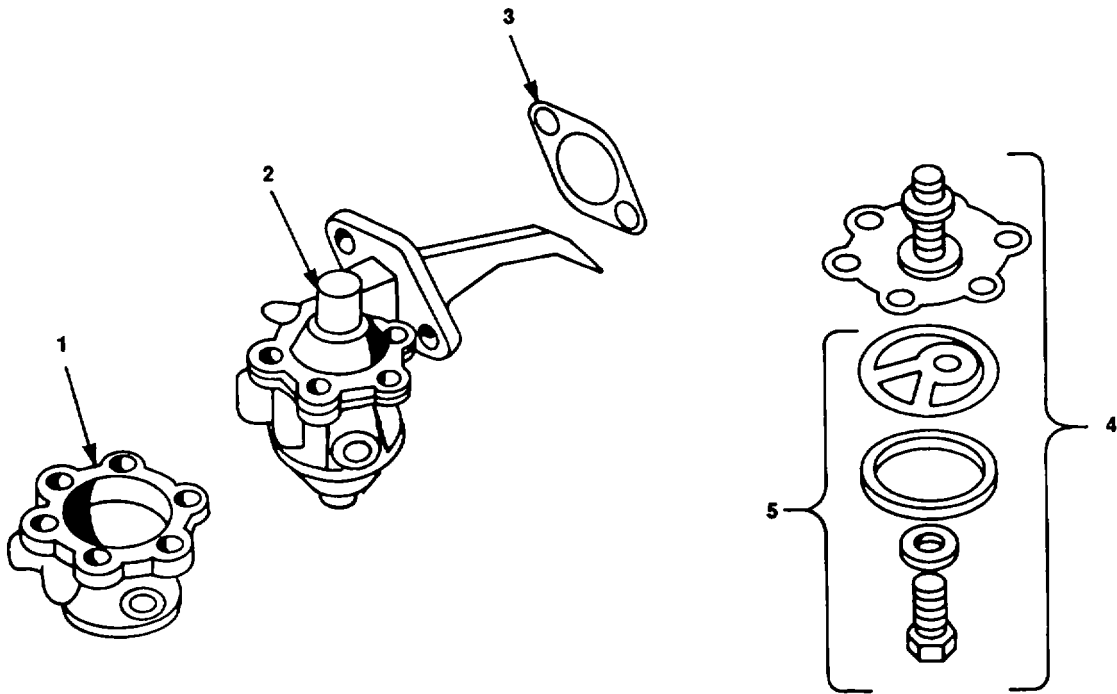

Figure 4-55. Fuel Feed Pump
- b. Discard the gasket (3, figure 4-55).
- c. Remove screws that fasten pump top (2) to pump bottom (1).
- e. Assemble pump top (2) to pump bottom (1).
- f. Insert new gasket (3) and secure feed pump to fuel injection pump.